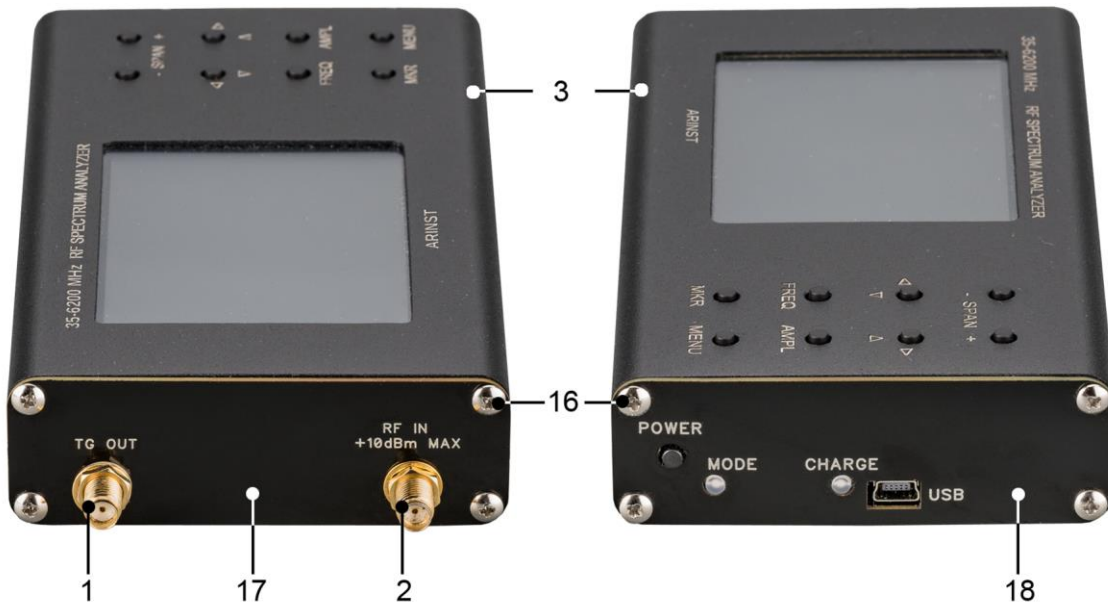

Figure 92 – Disassembly of the instrument case
10.3.4. Unscrew the 4 screws (16) of the front cover (17) of the device. Then unscrew the 2 upper screws (16) of the back cover (18) of the device (Figure 92).